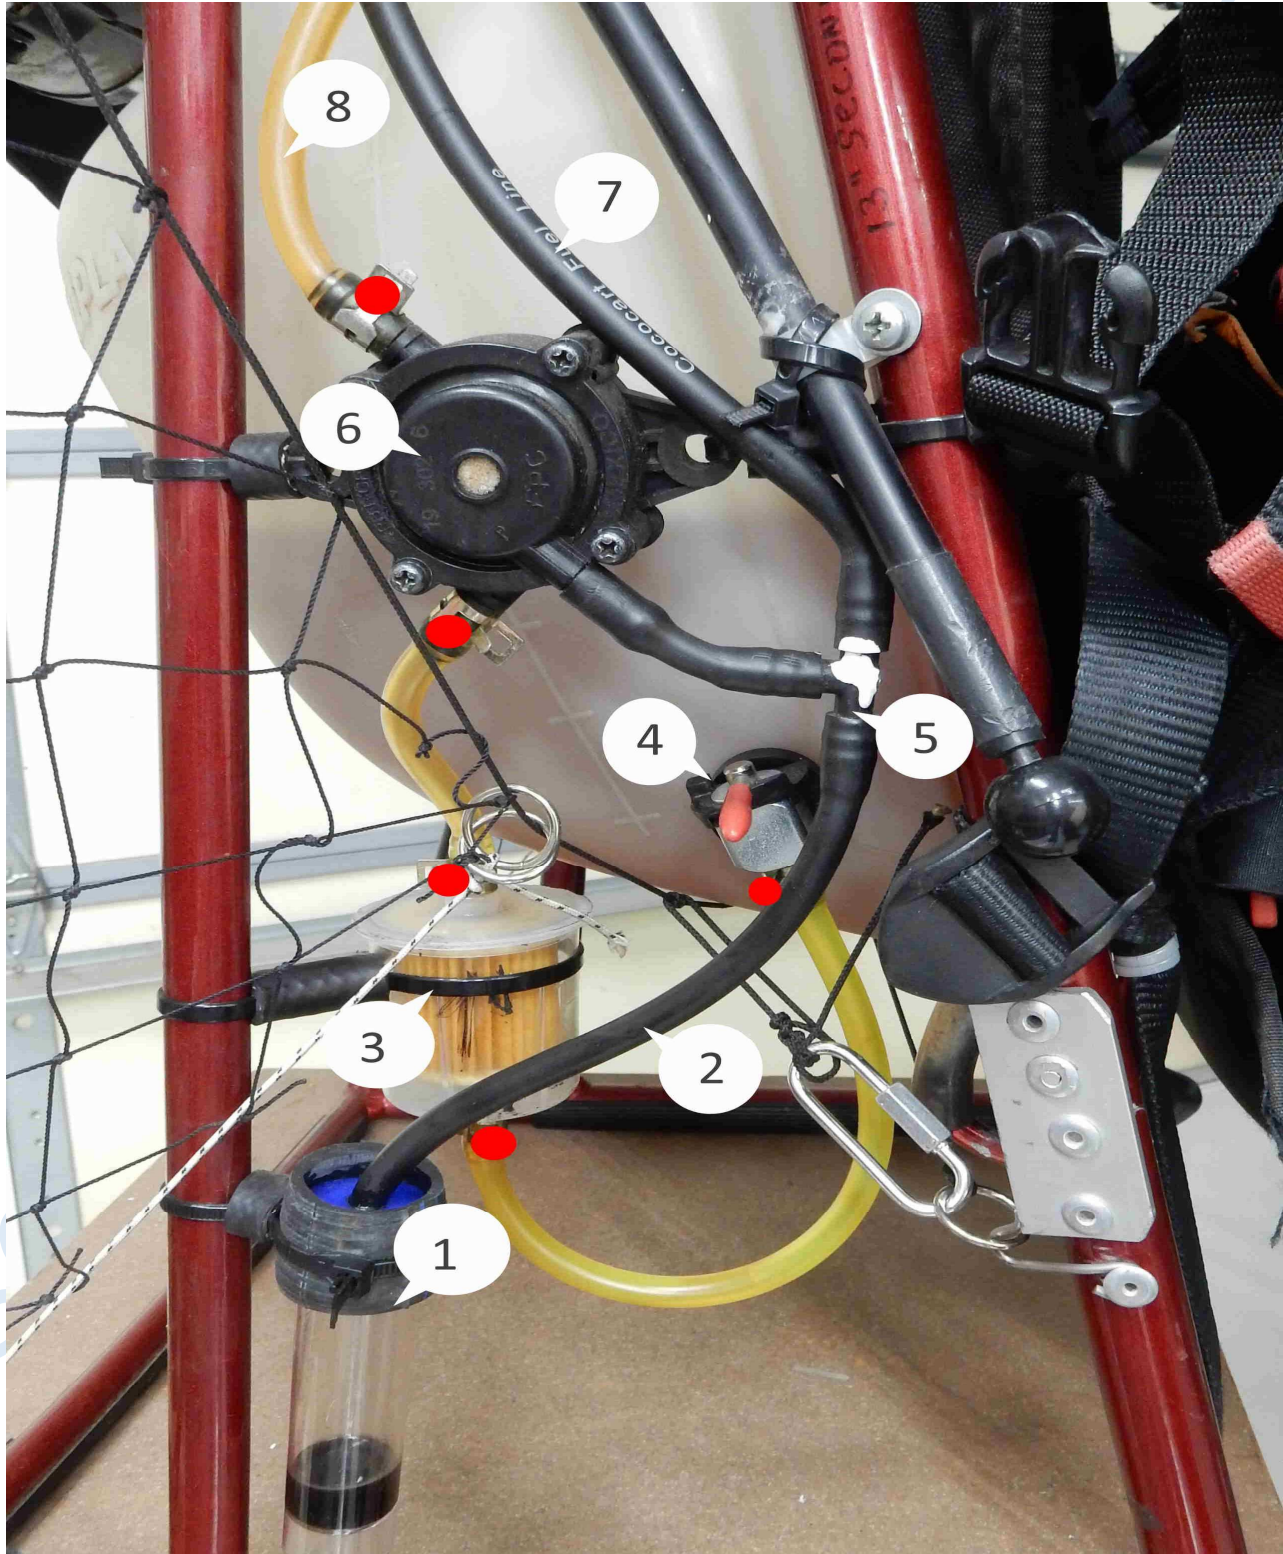
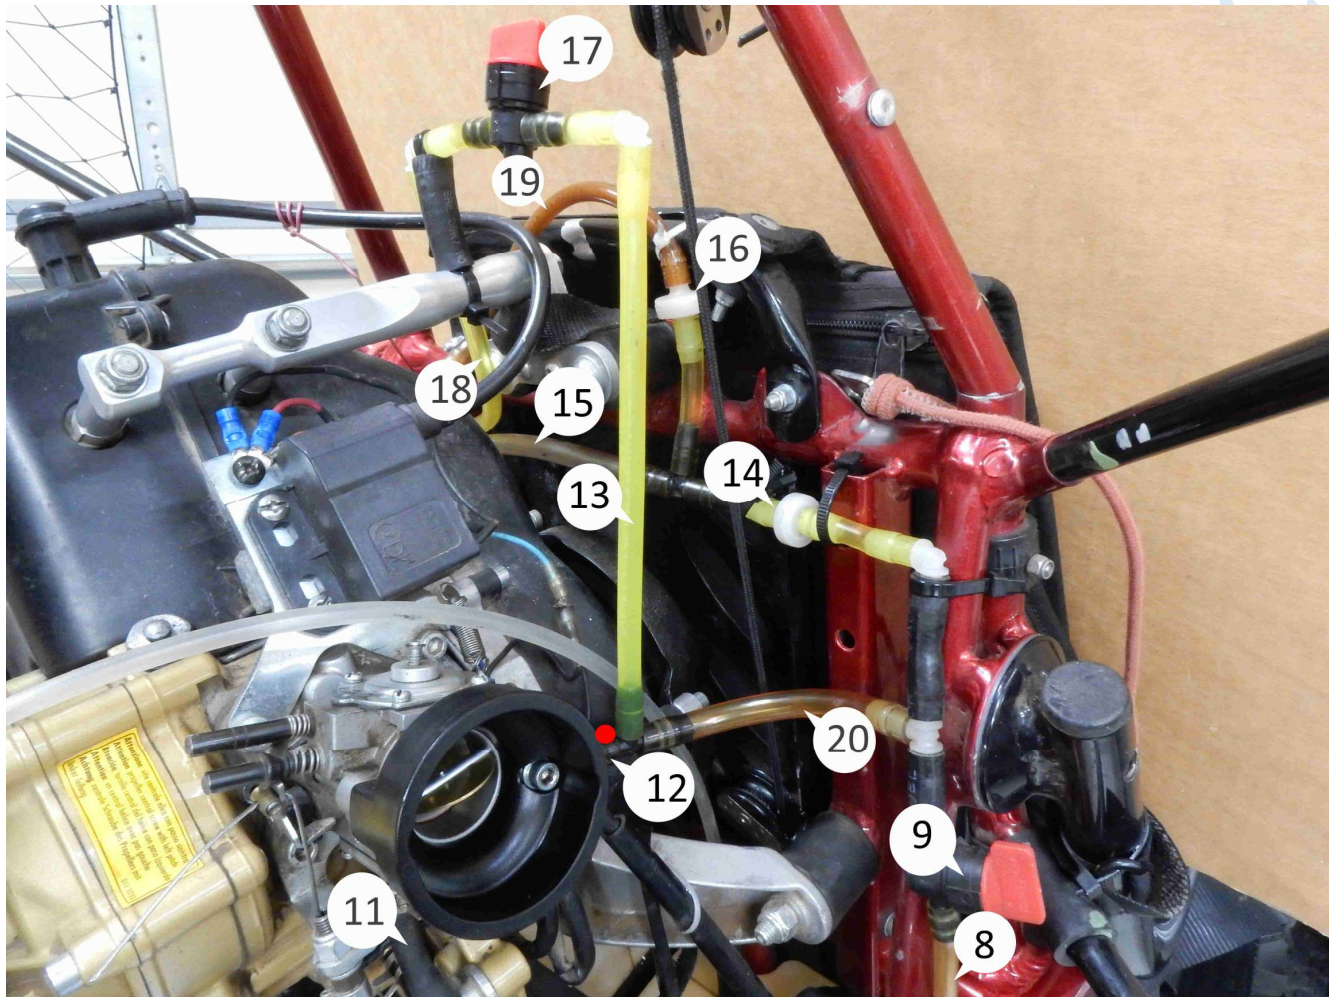
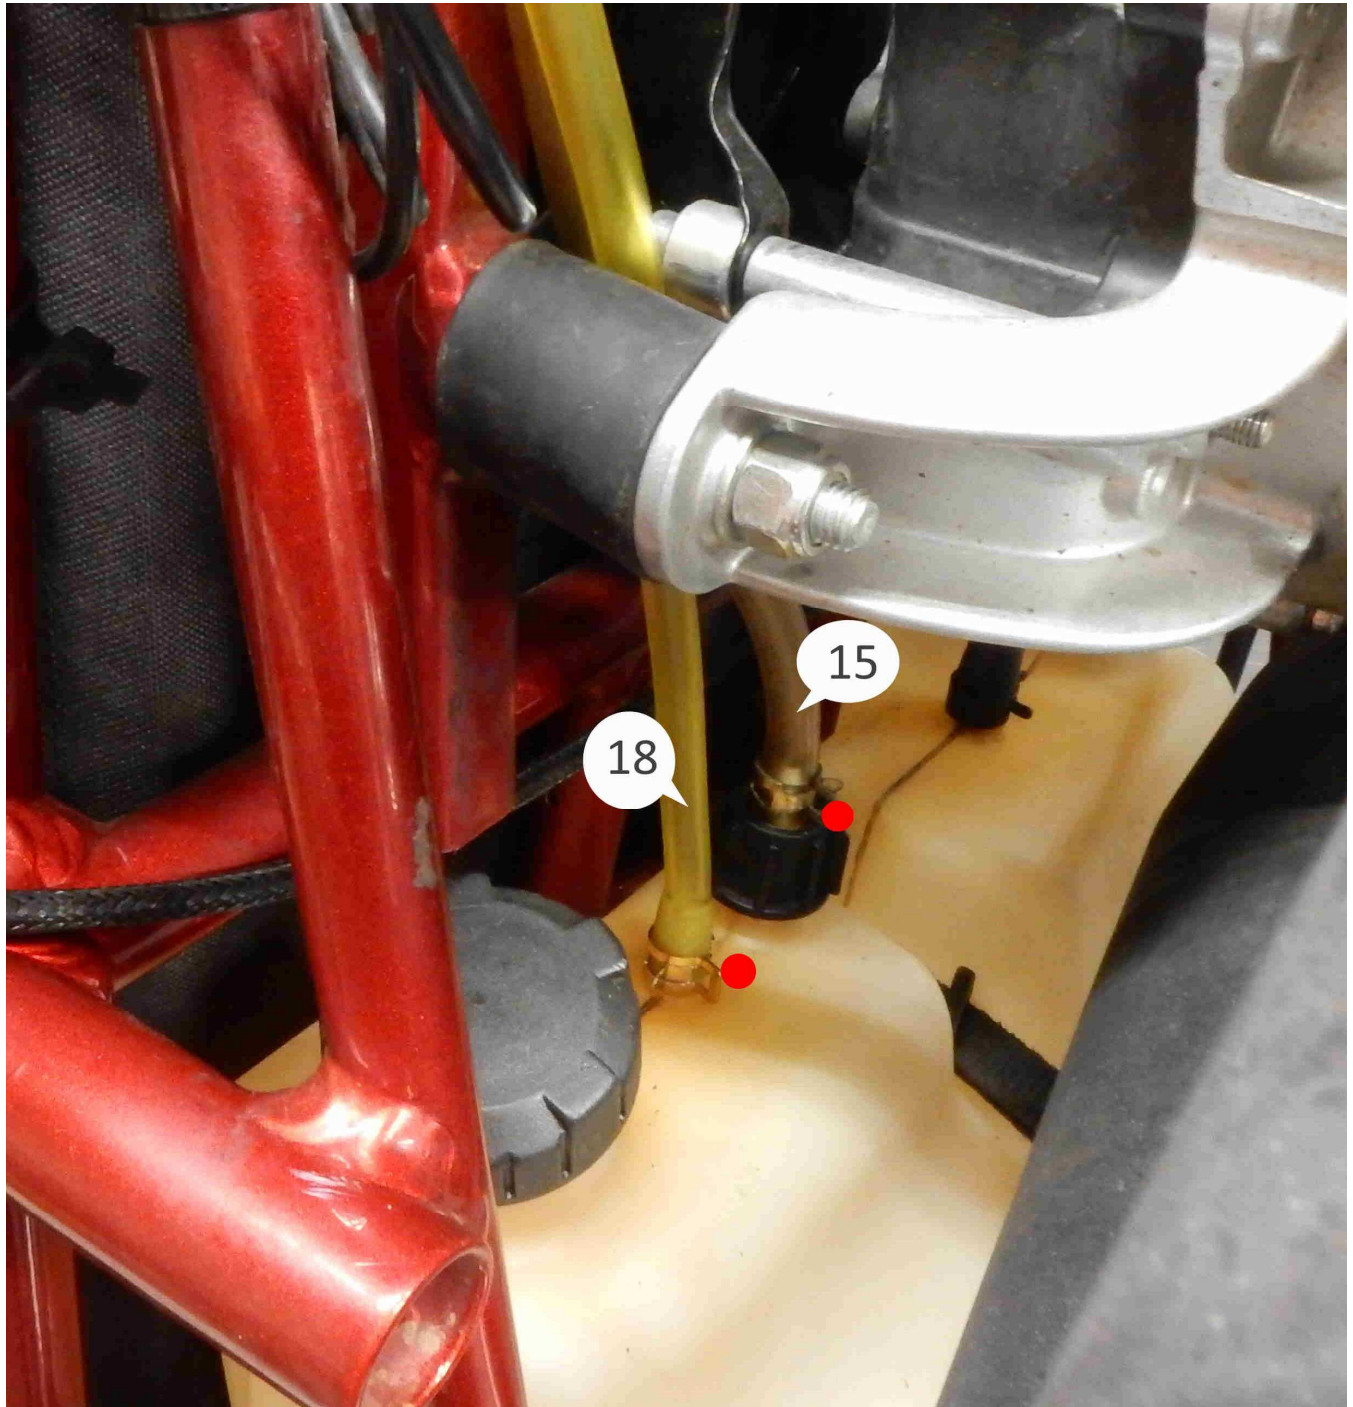

Figure 1
Figure 2
Figure 3
2. **Open the fuel tank valve #4** (figure 1), if your fitting has a valve.
3. **Temporarily adjust the coarse pressure adjustment valve #9** (figure 2) if it has not been done earlier. 45° off vertical is a good position to start with. Depending on how the valve is installed, it will open CW or CCW.
Close the manometer valve #17 (figure 2).
5. **Start the engine** – While at idle, observe the fuel overflow line #15 (figure 2,3) and make sure there is a good bubble stream. The URL below has a video of what you should see.
Open the manometer valve #17 (figure 2). Adjust the Coarse Pressure Adjustment valve so that the fuel level is at the mark on manometer tube or be between 4 & 5 inches high. This is the pressure (height of the fuel) that is needed to open VLCP Red #14 (figure 1) and create the bubble stream in the overflow line.
The VLCP system is self-regulating when the coarse pressure adjustment valve #9 (figure 2) is set correctly. Before every flight it is a good idea to check that the fuel level in the manometer tube and whether there is a strong stream of bubbles in the fuel overflow line (#15).
Purging bubbles from the system – Bubbles in the fuel pose a potential problem for the carburetor. They can cause vapor lock in the tiny passages and valves and prevent the internal pump from operating. In new systems or when the FSM is disassembled, bubbles are certain to get introduced into the fuel stream. This can cause temporary fuel starvation which is more an annoyance than a hazard. First of all, it is uncommon for these bubbles to find their way to fuel line #9 (see figure 2). Normally, any bubbles pass quickly through the Coarse pressure adjustment valve (#5 in figure 2), through VLCP Red (#3 in figure 2) and then into the fuel tank. If they take a detour to the fuel line #9 (see figure 2) there could be problems. To help prevent this, the manometer provides a trap for these bubbles so they do not get to the carburetor inlet. With the engine at idle, the pilot can look for any bubbles that might be in line #9. If they seem excessive, open the manometer valve for a moment. The bubbles should quickly enter the tube.
VLCP check – It is important to periodically check VLCP Green (#1 in figure 2) for functionality. An open VLCP Green could result in a fuel leak and/or poor performance of the FSM. A quick test of the valve is to suck on the vent line. It should not be possible to suck air/fuel from the vent line. A more thorough test of the regulator: While the engine is at idle, close the fuel overflow line (#11 in figure 3) with a fuel line clamp or equivalent. The type of clamp pictured below will not damage the fuel line.